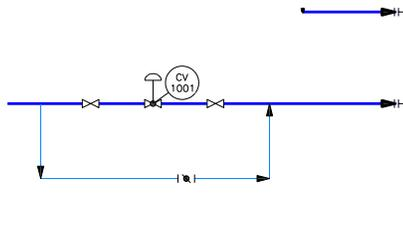

Figure 2-57 Location of the gate valve and butterfly valve on the line connected to the vessel
9. Choose **Gate Valve** from the **Valves** area in the **Valves** tab of **TOOL PALETTES - P&ID PIP**, and place it at two locations, as shown in Figure 2-57.
10. Next, choose **Butterfly Valve** and place it at the location shown in Figure 2-57.